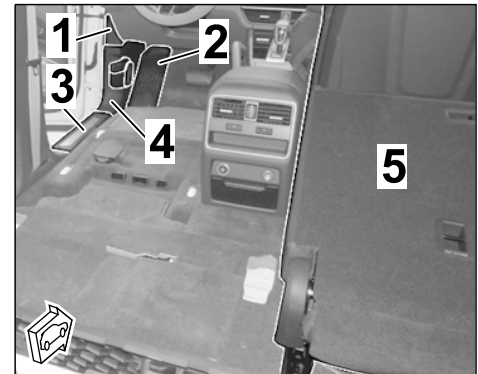

Figure 9
- 1.6 Expose the A-pillar area (left side) (⇒ *Figure 9*)